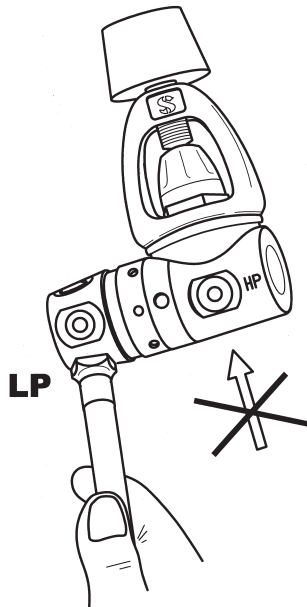

Fig. 1
Connect the low pressure (LP) hose of the Power Inflation Valve or A.I.R. 2 to an unused LP port of the first stage, **that must have the same thread (fig. 1)**.